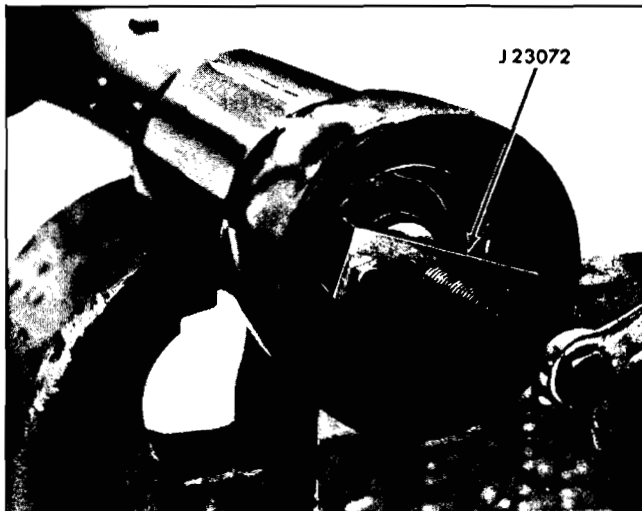

Fig. 9-34 Installation of Shift Tube Remover J 23072
23. Remove shift tube from bowl using tool J 23072, Fig. 9-34. Pilot sleeve in upper end of shift tube and force tube out of bowl.